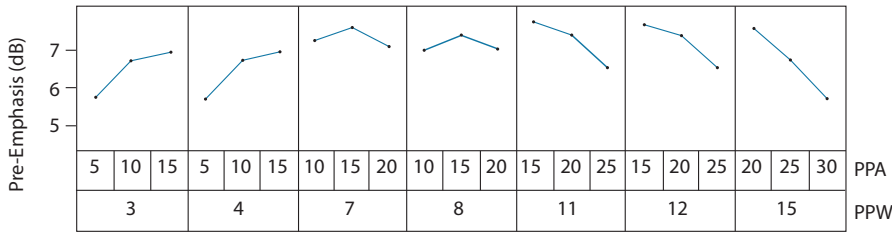
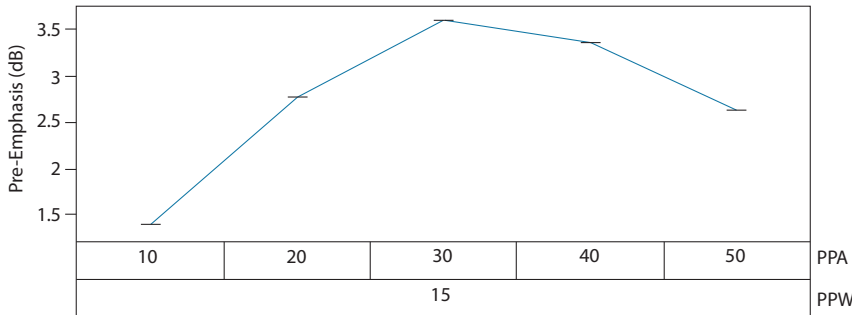

Figure 4-10: Pre-emphasis settings for VCCO__n = 1.2V and DS = 7 (swing = 200mVpp)
Figure 4-17: Pre-emphasis settings for VCCO__n = 2.5V and DS = 35 (swing = 800mVpp)
The only requirement of the trace driver pre-emphasis settings is to minimize ISI introduced by a lossy link and maximize the eye opening at the receiver. The Pre-emphasis compensation of the GS3241 output channel is a two-step process. The first step is to use the settings from Figure 4-10 to Figure 4-17 that best match the insertion loss of the link in the application, while the second step is a fine optimization procedure.
1. Pre-emphasis Amplitude (PPA) Optimization: Set the PPA and PPW to the values obtained from the graph selected out of Figure 4-10 to Figure 4-17, and then measure the downstream jitter. While keeping PPW constant, increment the PPA by 'a'. If the jitter is lower after the first increment, continue to increment by 'a' until the jitter begins increasing or a setting of 50 is reached. If there was a setting which resulted in a lower jitter measurement than the initial setting, that is the Optimized Pre-emphasis Amplitude setting: $PPA_{Optimal}$, and the PPA optimization procedure is complete.
If incrementing the PPA or decrementing the PPA did not result in a setting with lower jitter, then the initial setting obtained from the graph selected out of Figure 4-10 to Figure 4-17 is the PPA optimized Pre-emphasis Amplitude setting: $PPA_{Optimal}$.
2. The second step is to set the PPA to the optimized setting $PPA_{Optimal}$ determined in step 1 and PPW to the values obtained from the graph selected out of Figure 4-10 to Figure 4-17, then measure the downstream jitter. While keeping PPA constant, increment the PPW by 'w'. If the jitter is lower after the first increment, continue to increment by 'w' until the jitter begins increasing or a setting of 15 is reached. If there was a setting which resulted in a lower jitter measurement than the initial setting, that is the Optimized Pre-emphasis Width setting: $PPW_{Optimal}$, and the optimization procedure is complete.
If incrementing the PPW or decrementing the PPW did not result in a setting with lower jitter, then the initial setting value obtained from the graph selected out of Figure 4-10 to Figure 4-17 is the optimized Pre-emphasis Width setting: $PPW_{Optimal}$.